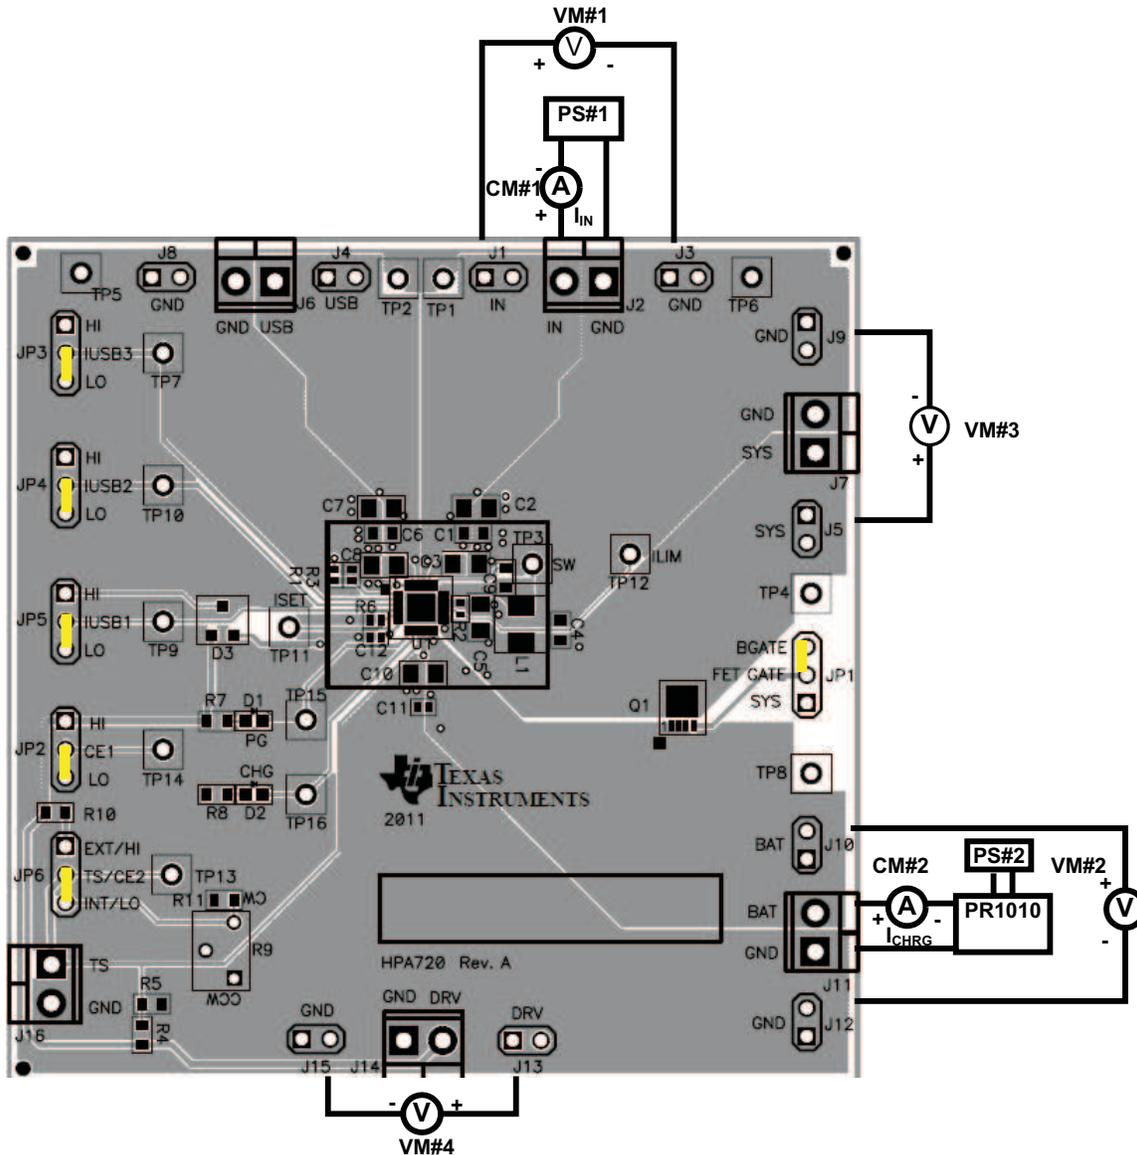

Figure 3. Original Test Setup for bq24165/166/167EVM (HPA720)
8. After the preceding steps, the test setup for HPA720 is as shown in Figure 3